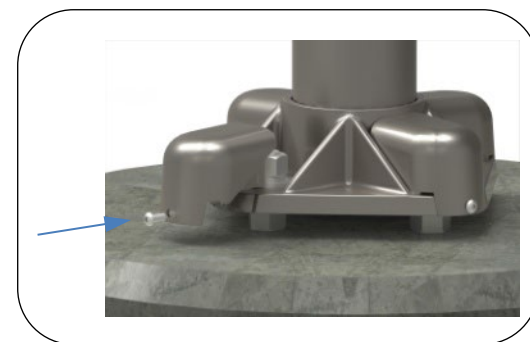
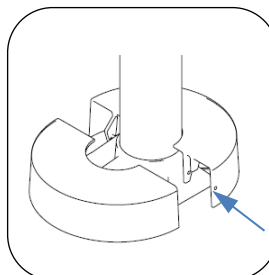

FIG. 15 – INSTALL NUT COVERS
FIG. 16 – INSTALL OPTIONAL
4. See Fig. 15 for nut cover installation or Figs. 16 and 17 for base cover installation.
1. Install nut covers as shown in Fig. 15.
1. Place base covers in position. Loosen or tighten clamping screws as needed for proper fit. Using access holes on base covers, tighten socket head cap screws to secure two base cover halves together, see Figs. 16 and 17.